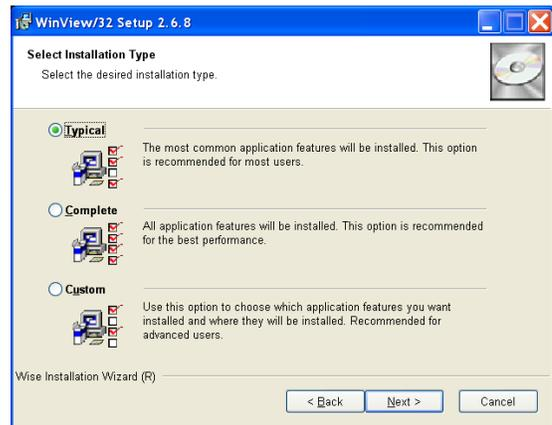

Figure 4. WinView Installation: Select Installation Type dialog
1. On the **Select Installation Type** dialog (see Figure 4), click on **Typical** radio button to install the required drivers and the most commonly installed program files. Select the **Custom** radio button if you would like to choose among the available program files or do not want to install the drivers. **Complete** installs all of the application features.